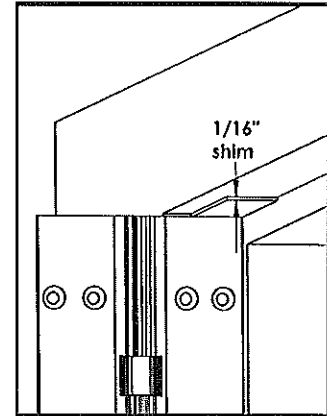

Fig. 1
- With the hinge open, place the frame leaf against the frame making certain that the alignment rib is flush against the face of the frame along its entire length. Position the top of the hinge 1/16" (1.6mm)(1/8"maximum) below the header. **Note: A 1/16" shim is recommended due to initial settling of the bearings.** (See Fig. 1)